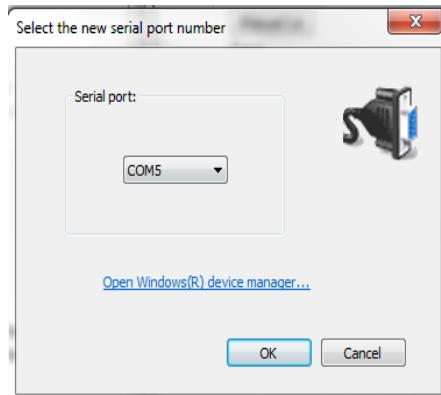

Figure 3. Serial Communications Dialog Box.
8. From within Sequence, select **View>Options>Communications**. The Serial Communications dialog box will open (**Figure 3**).